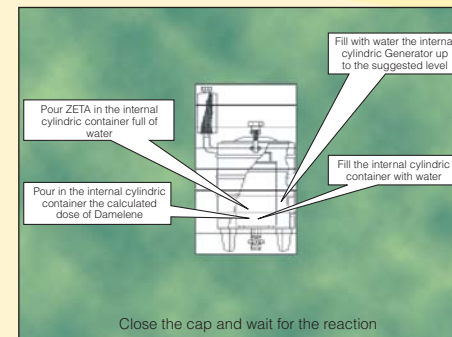

Figure 13. Ethylene generator.
M. Ethylene generator operation steps (ETHYLFAST Figures 13 and 14)